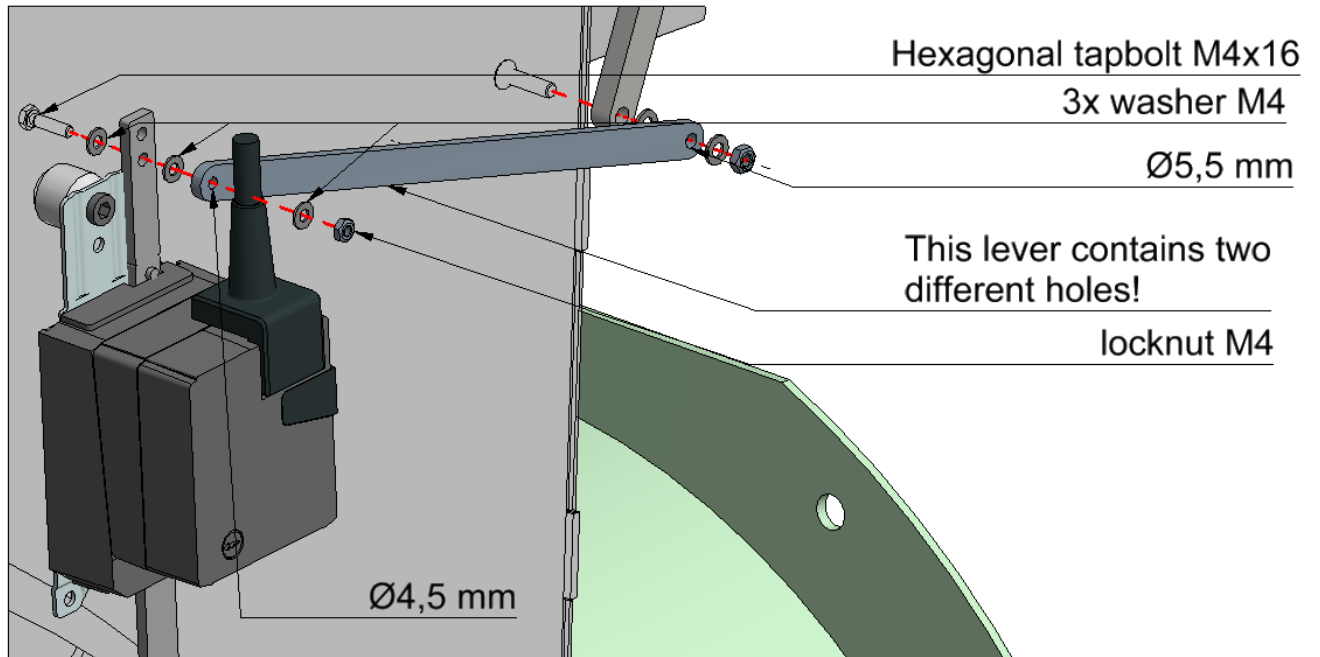

Figure 12 Mounting the Valve positioner (Gear rack drive)
- The lever must be mounted in the top free hole of the linear rack; See Figure 12. The hole at the end of the rack is, according to standard production, being used by a blocking nut to stop the rack from entering the drive.